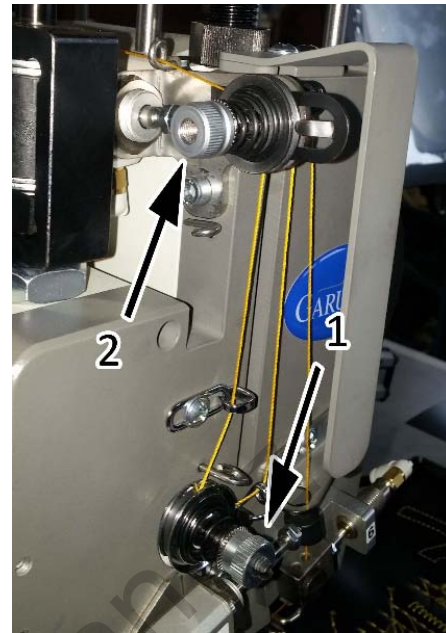

Fig. 11
A. Needle thread tension adjustment, Fig. 11: As the Figure shows turn screw (1) of the main tensioner clockwise to increase the tension, while counter clockwise to reduce the tension. Additional tensioner (2) is used for final adjustment of the end of needle thread after trimming.